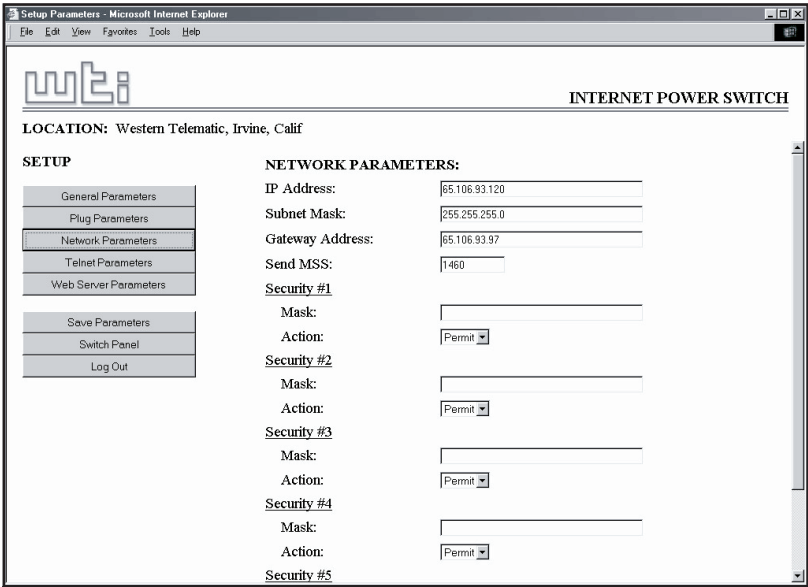

Figure 5.7: Network Parameters Menu - Web Browser Interface
**Web Browser Interface:** Click the "Setup" button to access the Setup Menus, and then click the "Network Parameters" button. The Web Parameters Menu will be displayed as shown in Figure 5.7
- a) **Web Browser Interface:** The IP Security feature is configured using the fields at the bottom of the Network Parameters Menu as shown in Figure 5.7.